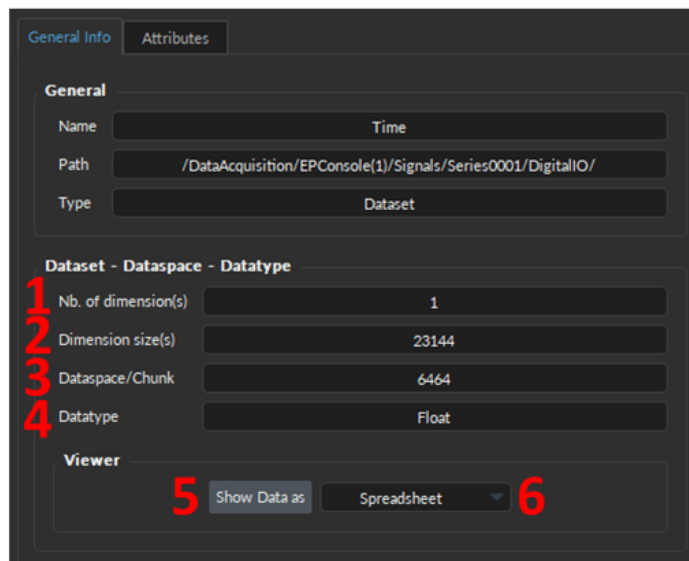
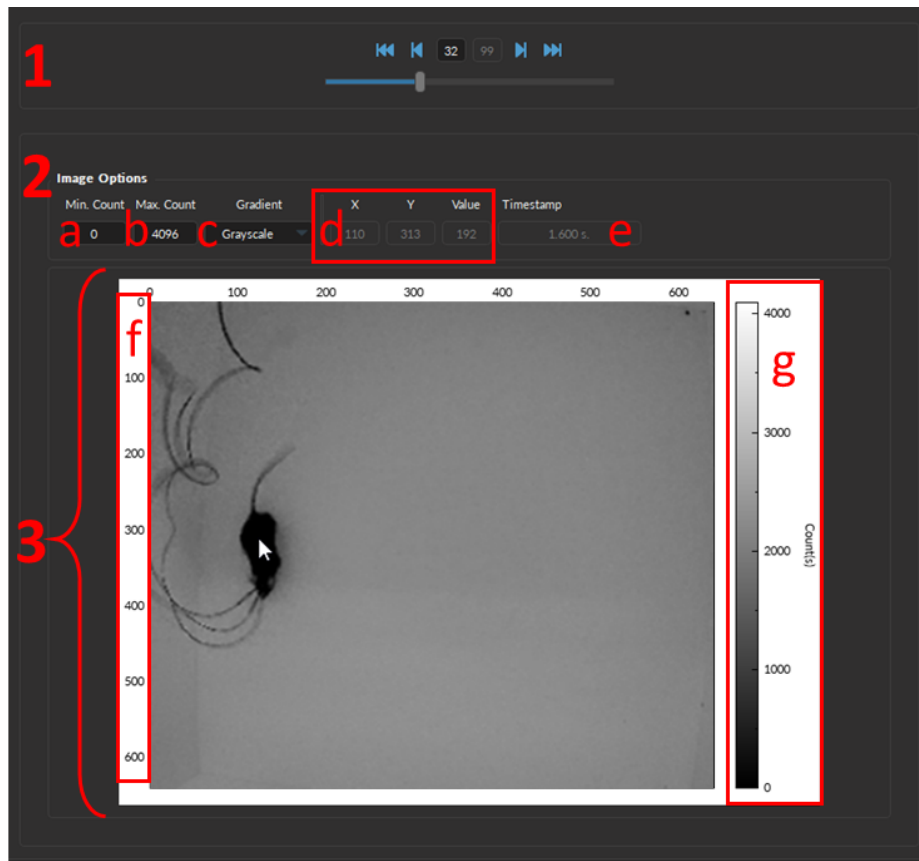

Figure 12.41: General Info tab, Dataset Viewer
Figure 12.43: Dataset Viewer: image data
To view the data stored within a **Dataset**, select it from the **File Manager** and click on the **General Info** tab (Fig. 12.25). In addition to having a **General** box (Section 12.3.1), **Dataset** have a **Dataset** box (Fig. 12.41), which displays the parameters and the button required to view either a subset or the entire raw data.
The following elements are contained within the **Dataset Info** box (Fig. 12.41):
1. The **Number of dimension(s)** (Fig. 12.41, 1) describes the number of dimensions that form the dataset. A *vector* has a dimension of 1, *images Stack* and *video* have a dimension of 3.
2. The **Dimension size(s)** (Fig. 12.41, 2) describes the length of the dataset (i.e. the number of rows) for *vector* data. For *images Stack* and *video* it is the width x height x # frames.
3. The **Dataspace/Chunk** (Fig. 12.41, 3) is the value used to reduce the data when displaying it in the **Data Viewer** (Fig. 12.43) using the **Spreadsheet Chunked** setting (Fig. 12.41, 6). This setting speeds up the data loading process, which is particularly useful for quickly checking the values. The software automatically generates the **Dataspace/Chunk** value based on the dataset's size.
4. The **Datatype** (Fig. 12.41, 4) displays what kind of numerical value is used within the dataset (e.g. float, integers, etc.). The *float* type is the most common of *Doric Lenses* acquisition devices. *Integers* are used for images and videos.
5. The **Show Data as** button (Fig. 12.41, 5) opens the **Data Viewer** window (Fig. 12.43) for a quick view of the selected dataset. Section 12.5.2 describes the features of the window.
6. The **Spreadsheet** drop-down list (Fig. 12.41, 6) allows users to select the viewing mode, including:
- *Image* - displays the raw images in the **Dataset Viewer** window (Fig. 12.43).
For *vector* data (Fig. 12.42), a column vector with the number of rows matching either the **Dimension size(s)** (Fig. 12.41, 2) or the **Dataspace/Chunk** (Fig. 12.41, 3) parameter. The column header will always be the **Name** (Fig. 12.26, 1) of the **Dataset**. Note the **Frame Control** box (Fig. 12.43, 1) is inactive for data with a **Number of Dimension(s)** lower than three.
For *image* data (Fig. 12.43):
- a) The **Min. Count** (Fig. 12.43, 2a) sets the minimum pixel value of the gradient that will be displayed in the image. Thus, all pixel values lower than the **Min. Count** will be displayed as the minimum pixel value color.
- b) The **Max. Count** (Fig. 12.43, 2b) sets the maximum pixel value of the gradient that will be displayed in the image. Thus, all pixel values higher than the **Max. Count** will be displayed as the maximum pixel value color.
- c) The **Gradient** (Fig. 12.43, 2c) sets the type of color gradient the pixel values will represent in the image below. Twelve gradient options are available, including *Grayscale*, *Thermal*, and *Spectrum* to name a few.
- d) The **Cursor Coordinates** (Fig. 12.43, 2d) displays the x and y coordinates, and the pixel value of the cursor within the image (Fig. 12.43, 3 - arrow).
- e) The **Timestamp** text-box (Fig. 12.43, 2e) displays the time associated with the image (Fig. 12.43, 3). Changing the **Current Frame Number** using the **Frame Controls** (Fig. 12.43, 1) will automatically change the value of the **Timestamp**.
- f) The **X & Y Axes** of the image (Fig. 12.43, 3f) displays the scale and resolution of the image. The axes begin at 0 and end at the value of the image pixel width and height (respectively) corresponding to the **Dimension size(s)**. The x and y coordinate of the cursor within the image will always be within this range of values (Fig. 12.43, 2d).
- g) The **Gradient bar** (Fig. 12.43, 3g) displays the color associated with the pixel value (Count(s)).